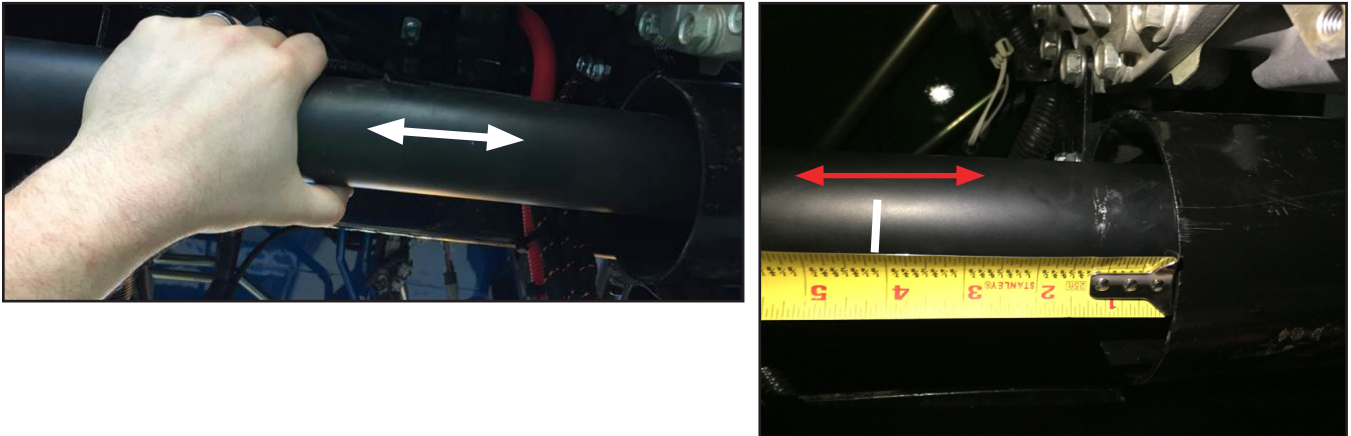

Figure 3
- Then move the shaft in one direction and check that it moves $\frac{3}{8}$ " to $\frac{1}{2}$ " from the mark (Figure 3). Repeat in the other direction. **NOTE:** Shaft should move back and forth a total of $\frac{3}{4}$ " to 1".